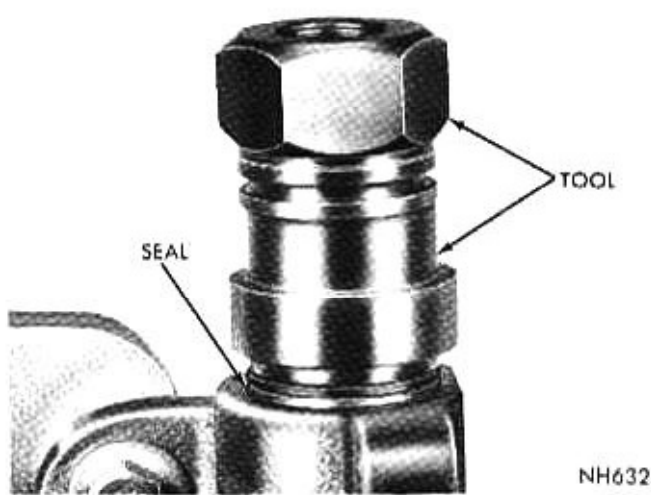

Fig. 7—Installing Cross Shaft Grease Retainer
(9) Remove tool nut, adapter and protector. Install seal back-up washer and oil seal snap ring with sharp edge out.
(10) Position grease retainer in housing bore. Place tool adapter SP-3052 with short step of lip against seal (Fig. 7). Install tool nut on cross shaft and tighten until shoulder of tool adapter contacts gear housing.
(11) Place steering gear and front wheels in straight ahead position and install steering gear arm and nut.
(12) Tighten steering gear arm nut to 180 foot-pounds.